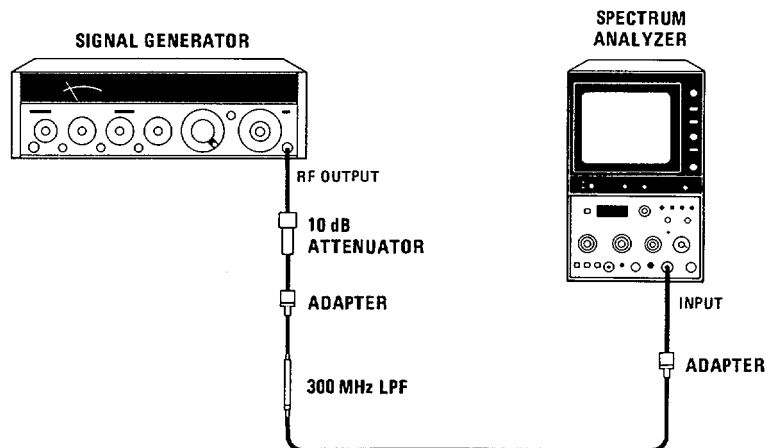

Figure 4-13. Harmonic Distortion Test Setup
3. Connect equipment as shown in Figure 4-13.